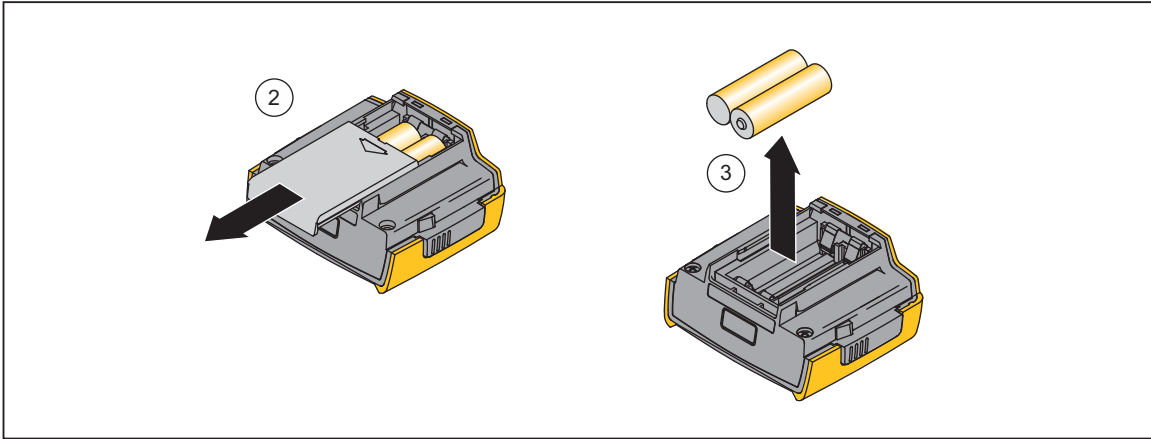

Figure 3. Display-Module Battery Removal
2. Remove the battery door of the display module as shown in Figure 3.